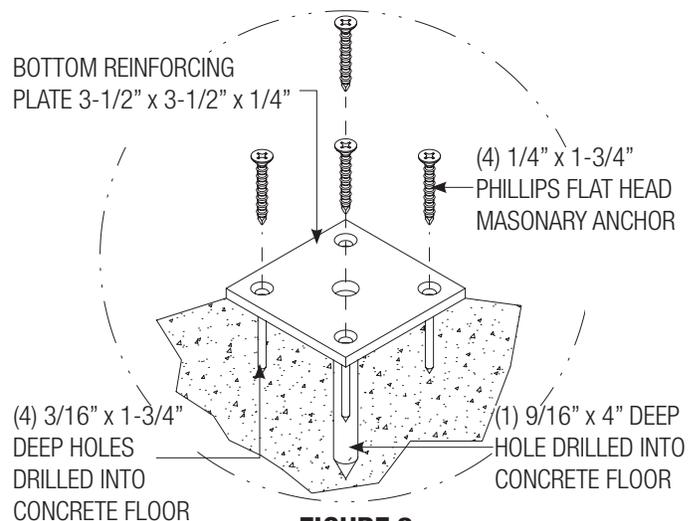

FIGURE 2
Ensuring the post assembly is plumb, trace the outline of the bottom of the outer post on the floor. Remove the post assembly and set aside until step 5. Locate the center of the traced outline by connecting the corners to form an 'x'. At the intersection of the 'x', drill a 9/16" diameter hole a minimum of 4" deep into the floor. Clean dust out of hole. Align the plate over the hole as shown in figure 2 and drill (4) 3/16" x 1-3/4" holes. Clean out the holes and insert the (4) 1/4" x 1-3/4" phillips flat head masonry anchors through the holes in the floor plate and tighten to secure the plate.